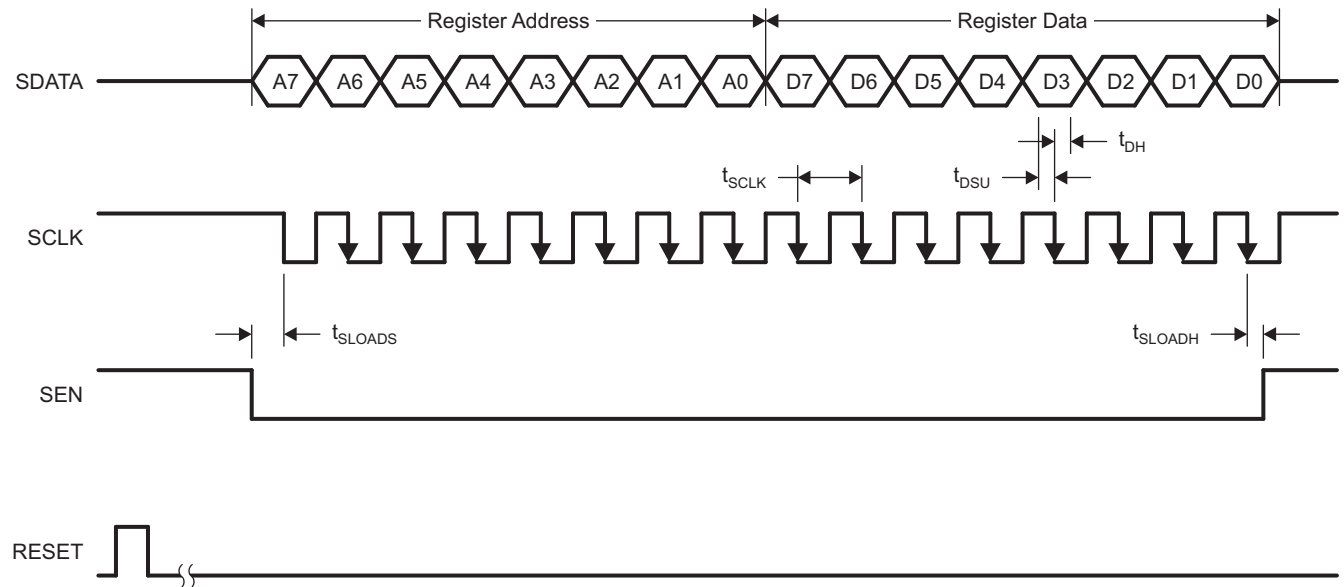

Figure 8. Serial Interface Timing
1. Either through hardware reset by applying a high-going pulse on RESET pin (of width greater than 10ns) as shown in Figure 8